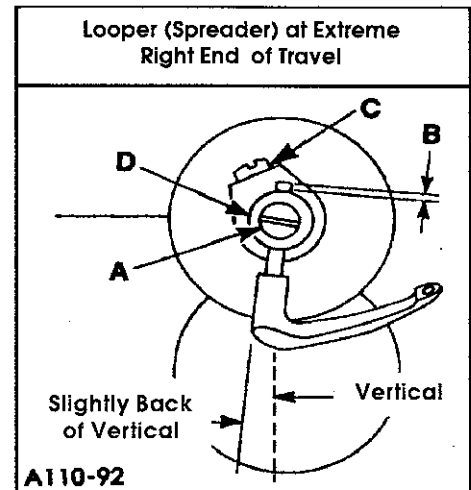
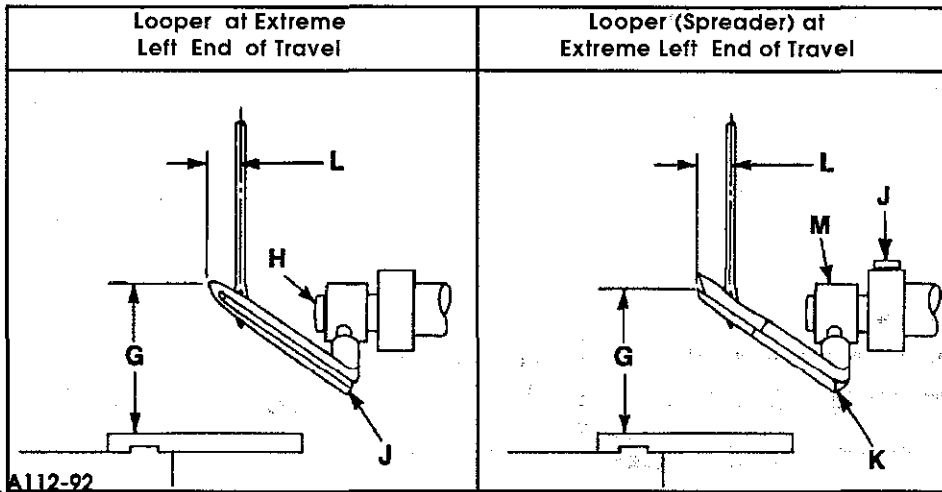

Fig. 10
Fig. 12
Figures 10, 11, 12, and Table V relate approximate dimensions for adjusting the upper looper/spreader at their extreme right and left positions of travel. Follow the instruction below in the sequence listed.
1. Position upper looper/spreader at the left end of travel, loosen clamp screw (A, Fig. 10) and set the upper looper/spreader shank to the "B" dimension on Table V. Temporarily tighten screw (A).
2. On all styles using the 504 or 505 stitch position the upper looper at the right end of travel. Loosen screw (C) and rotate holder (D) as required to set shank slightly back of vertical as shown in Fig. 10. Temporarily tighten screw (C). On style 39500 RR (503 stitch) set the spreader shank vertical.
4. Continue to rotate the handwheel in operating direction until the looper/spreader is at its extreme left end of travel. At this time the distance between the throat plate surface and the point of the upper looper or the lower point of the spreader should be the "G" dimension on Fig. 12 and Table V. Loosen screw (H) and move looper (J) or spreader (K) up or down as required. Tighten screw (H).
5. Leave the looper/spreader positioned at the left end of travel. The distance between the centerline of the needle and the point of the upper looper or the lower point of the spreader should be the "L" dimension on Fig. 12 and Table V. Loosen screw (C, Fig. 10) and adjust holder (D) right or left as required. Tighten screw (C).
6. If the needle is being deflected by the upper looper/spreader, clearance to the needle can be increased by reducing the distance between the looper/spreader shank and the holder (B, Fig. 10). It will then be necessary to slightly reduce the angle of the shank back of vertical (see step 2). Set looper/spreader to lower looper (see step 3). Reversing this procedure will position looper/spreader closer to the needle.